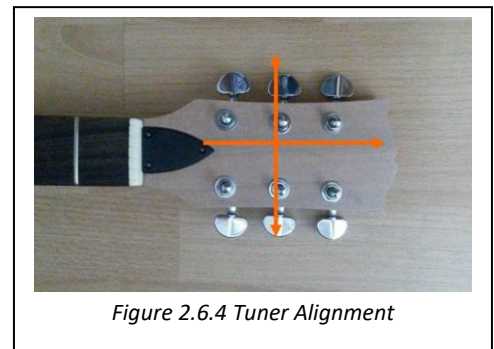

Figure 2.6.4 Tuner Alignment
| 2.6.4 | Check Tuner Alignment (Figure 2.6.4) | - 5 - |
2.6.4 Check Tuner Alignment (Figure 2.6.4)